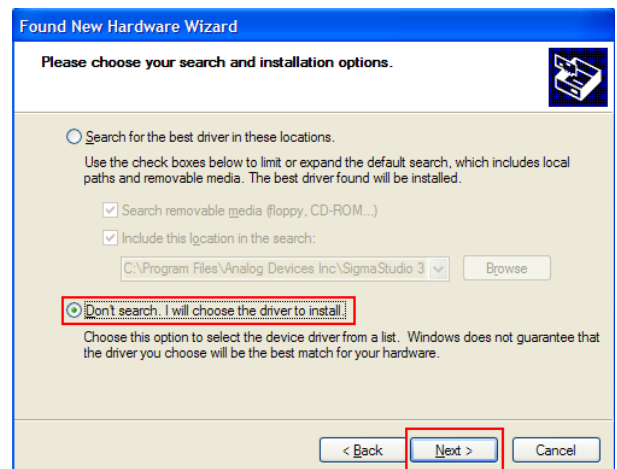

Figure 3. Selection of the Driver to Install
3. Select **Don't search. I will choose the driver to install** and click **Next** (see Figure 3).